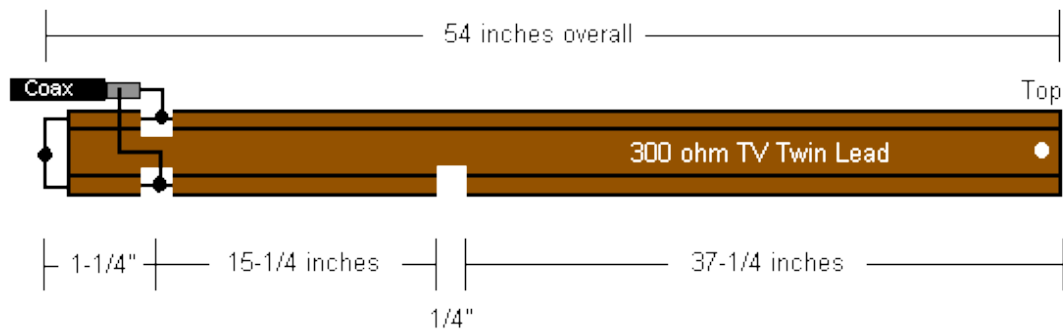

Figure 1. J-pole
- Next, measure up 1-1/4 inches from the bottom and carefully remove the insulation, exposing both wires, as shown in Figure 1. Keep the notches small (1/8" or so) and be careful not to cut the wires. This is where we will be attaching the coax later.
- Now, attach your coax as shown in Figure 1. [Note: A ferrite bead (type 43 material) can be placed over the outside of the coax near the feedpoint to choke off any RF that might get coupled onto the coax shield. Many plans for this antenna, however, omit the ferrite bead. Your choice. If you experience problems with RF on the rig, go ahead and add the ferrite bead. Alternately, you can wind the coax into a coil of about 5 inches in diameter with 4 turns to create a suitable RF choke.]